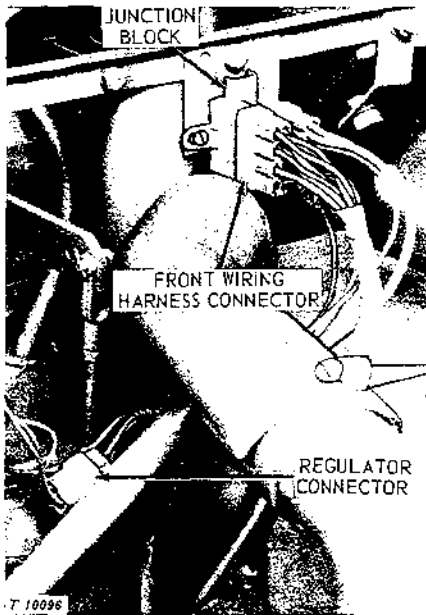

Fig. 20-5-4—Disconnecting Wiring
9. Disconnect front wiring harness connector at junction block (Fig. 20-5-4).